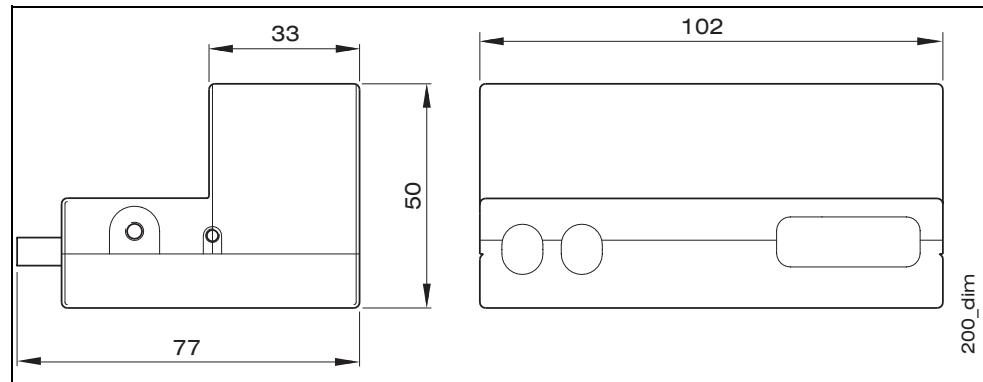

Fig. 3.1.-1 Dimensions of SPA-ZC 200 module
2. Fix the assembly to the back of the relay, see fig. 3.1.-2.